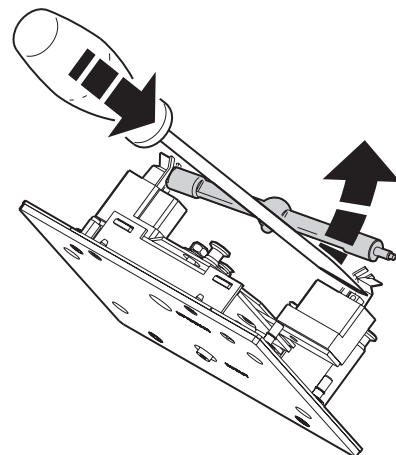

Figure 2: Lamp removal
3. Push down the retention spring on the right end of the socket and push out the pin. You can use a screwdriver to gently pry the lamp out of the socket as shown in Figure 2. Remove the lamp.